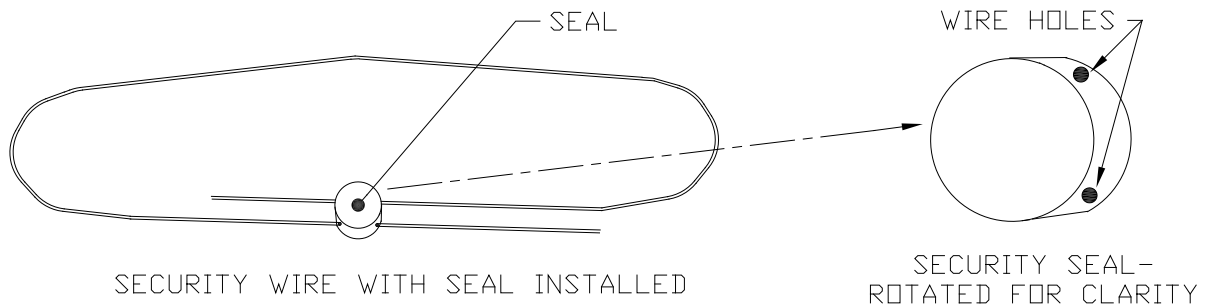

Figure 2-29 Security Wire w/ Seal
- 2) Bring ends together and insert through holes in security seal (see Figure 2-29).